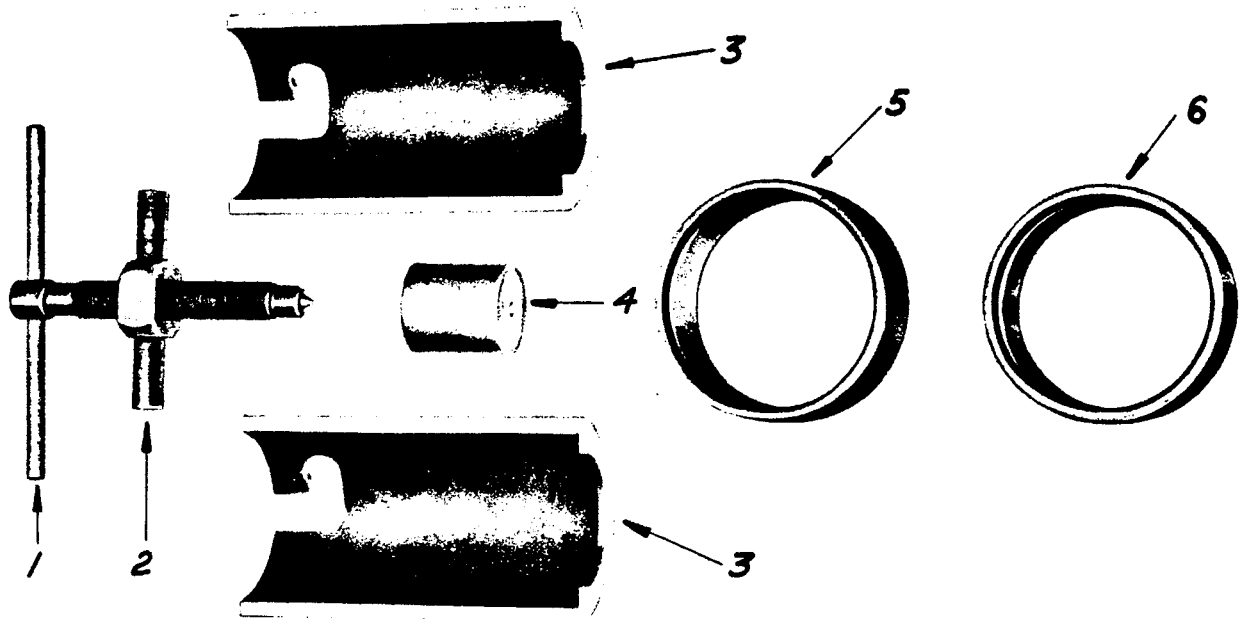
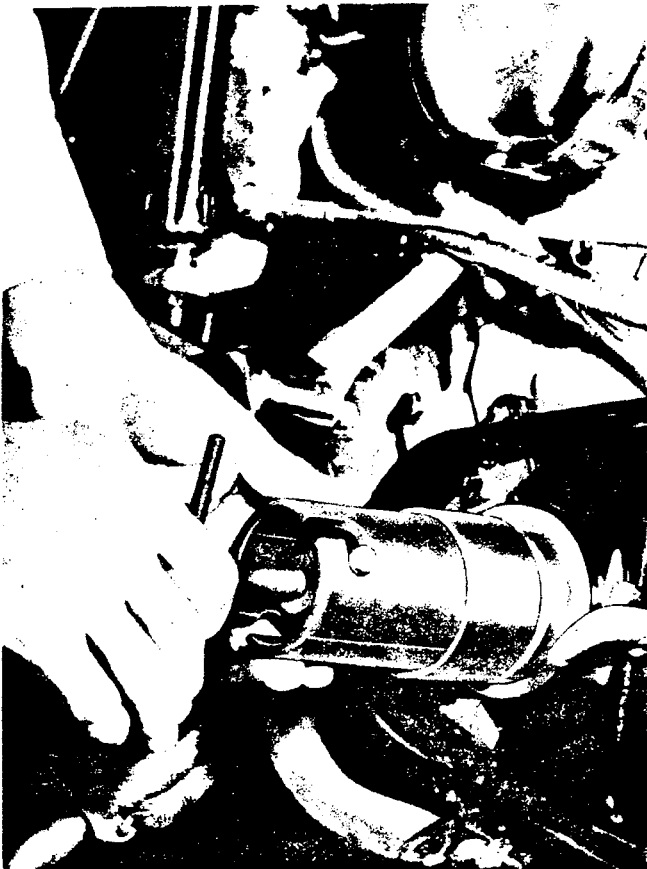

Figure 1. Tool Set Complete, Part No. 96015-56
Figure 3
To pull sprocket shaft bearing from 74 OHV flywheel assembly, items 1, 2, 3, and 5, shown in Figure 1 on page 1, are used. Place pinion shaft end of flywheel assembly between copper jaws in a vise. Place hooked ends of puller body halves (3) back of bearing next to flywheels and slip plain round collar (5) over outside of body halves so that it will hold them together when pulling off bearing. Turn screw assembly (1) part way into screw block (2), and engage the block ends in puller body slots. Tighten the puller screw against sprocket shaft center to pull bearing off as shown in Figure 2.
To pull sprocket shaft extension, tool is used in same manner as above, with these differences: Adapter plug (4) of Figure 1 is used as a center, being inserted into sprocket shaft extension. The plain round collar (5) is used for 1955 and later 74 OHV sprocket shaft extension. Collar (6), identified with groove around outside, is used for 1957 Model XL (Sportster) sprocket shaft extension. Figure 3 shows manner of using puller on 74 OHV sprocket shaft extension.